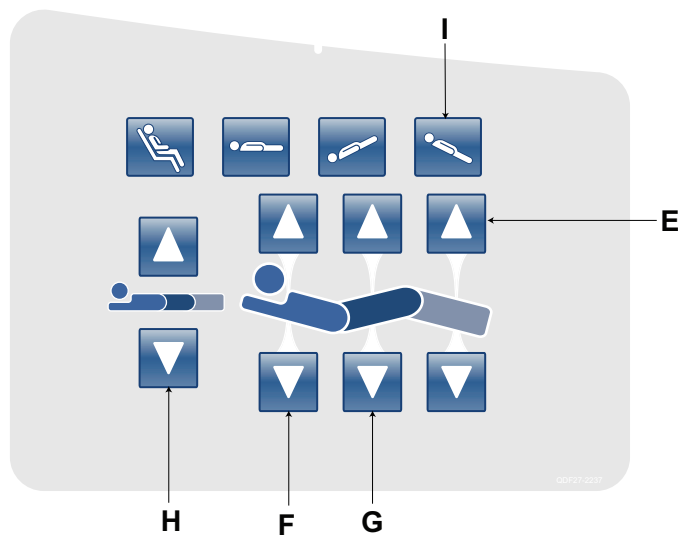

Figure 7 – Litter surface to flat and lowest position
6. Place the litter surface to a flat position. Press the **Foot Up (E)**, **Fowler Down (F)**, and **Gatch Down (G)** buttons simultaneously (Figure 7).
7. Lower the bed to the lowest position. Press the **Bed Height Down (Head Lift Down) (H)** and **Reverse Trendelenburg (Foot Lift Down) (I)** buttons simultaneously (Figure 7).